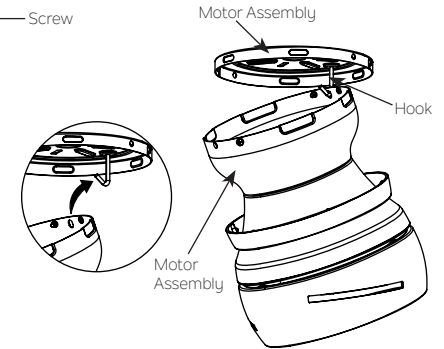

Fig. 6
Step 3. Hook the motor body onto the ceiling mounting bracket as shown. You can now proceed with the electrical wiring of your fan. (Fig. 6)